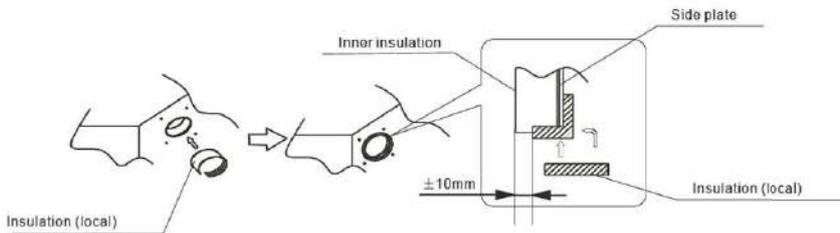

fig.5
- Put the insulation tightly around the hole of the unit as shown. The ends of the side plate and the inner insulation must be completely adhered without leaving any clearance along the circumference of the hole. Make sure the inner surface of insulation tightly contacts the inner insulation edge and the side plate. (refer to fig.5)